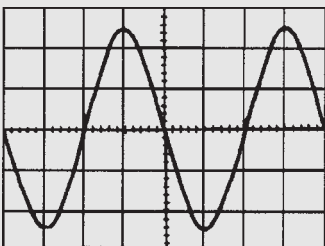

Figure 10.19
**Problem 9.** A sinusoidal voltage trace displayed by an oscilloscope is shown in Fig. 10.19. If the 'time/cm' switch is on 500  $\mu\text{s/cm}$  and the 'volts/cm' switch is on 5 V/cm, find, for the waveform, (a) the frequency, (b) the peak-to-peak voltage, (c) the amplitude, (d) the r.m.s. value.